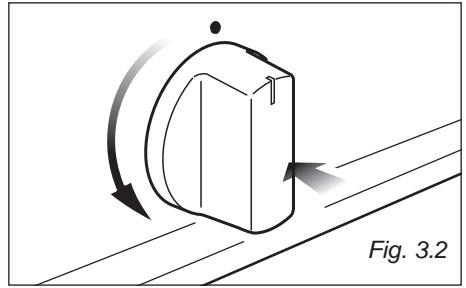

Fig. 3.2
- Remove the screw securing the cover "A" on the rear of the cooker (fig. 3.2).
1. Press in the corresponding knob and turn counter-clockwise (fig. 3.2) to the full flame